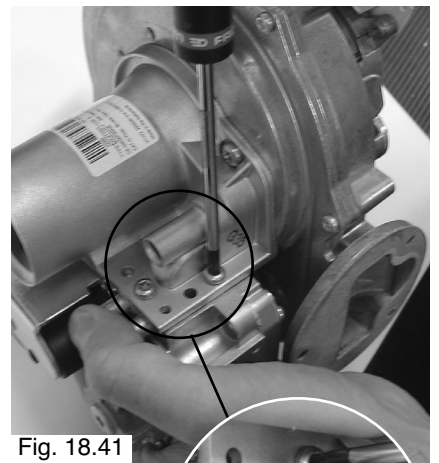

Fig. 18.41
4. Unscrew the three screws holding the gas valve on the venturi (Fig. 18.41);